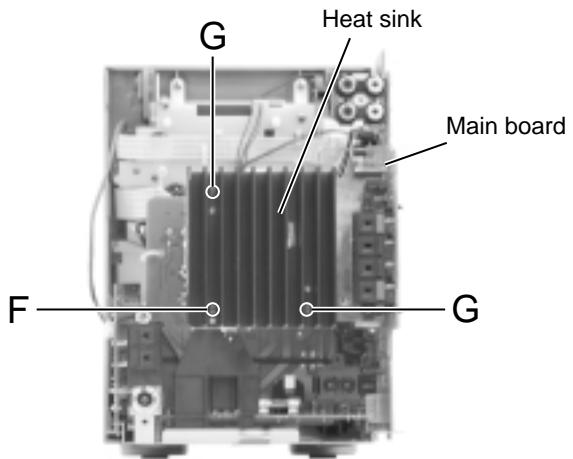

Fig.9
- Remove the screw F attaching the heat sink on the back of the body (Refer to Fig.9).